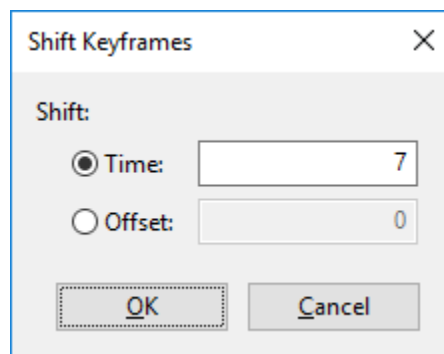

Figure 43. Shift Keyframes dialog
2. Right-click the keyframes and select **Shift Times**. This will open the **Shift Keyframes** dialog as shown in Figure 43.